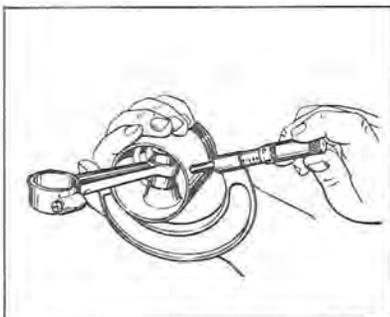
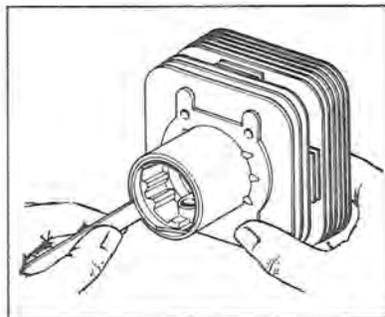

Figure 8-10
Figure 8-11
- b. Check pistons for roundness, taper, excessive skirt wear, and scoring. Piston skirts must be perfectly round and unscratched to prevent entry of exhaust gases into crankcase chamber. Check piston size, taper, and roundness, using a micrometer (see Figure 8-10). Check clearance between piston and cylinder before reinstalling piston (see Figure 8-11).